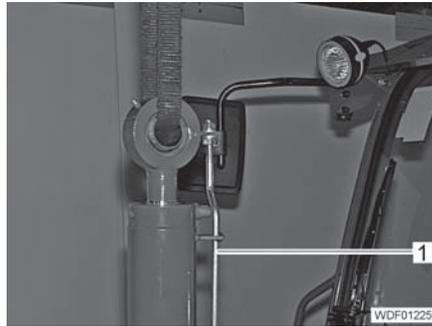

Fig. 200 Raising the tipping cylinder
- ▷ Do not bend or damage the tilting indicator (Fig. 200,1).